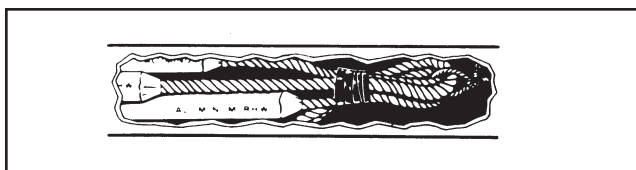

Figure 6
e) Where conductors are pulled with a rope, stagger the conductor ends and anchor in position with tape, to provide maximum flexibility around bends (Figure 6). If using a plexed cable assembly, cut the conductors to different lengths in order to stagger the pulling heads or attach a basket grip over the entire assembly.